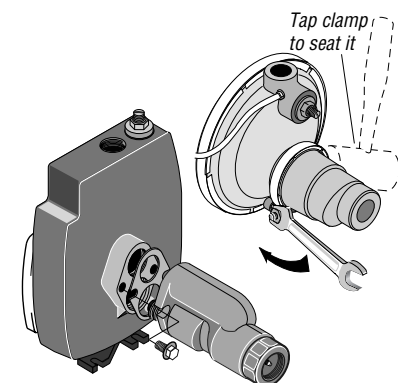

Figure 4: Mount Ejector – Shallow Well
3. Install ejector kit FP4855 or kit FP4875 (kits are sold separately). Follow the instructions provided with the kit. Be sure to align the venturi with the top hole on the front of the pump (see Figure 4).
2. Install ejector kit FP4855 or kit FP4875 (kits are sold separately). Follow the instructions provided with the kit. Align the venturi with the top hole on the front of the pump (see Figure 4).